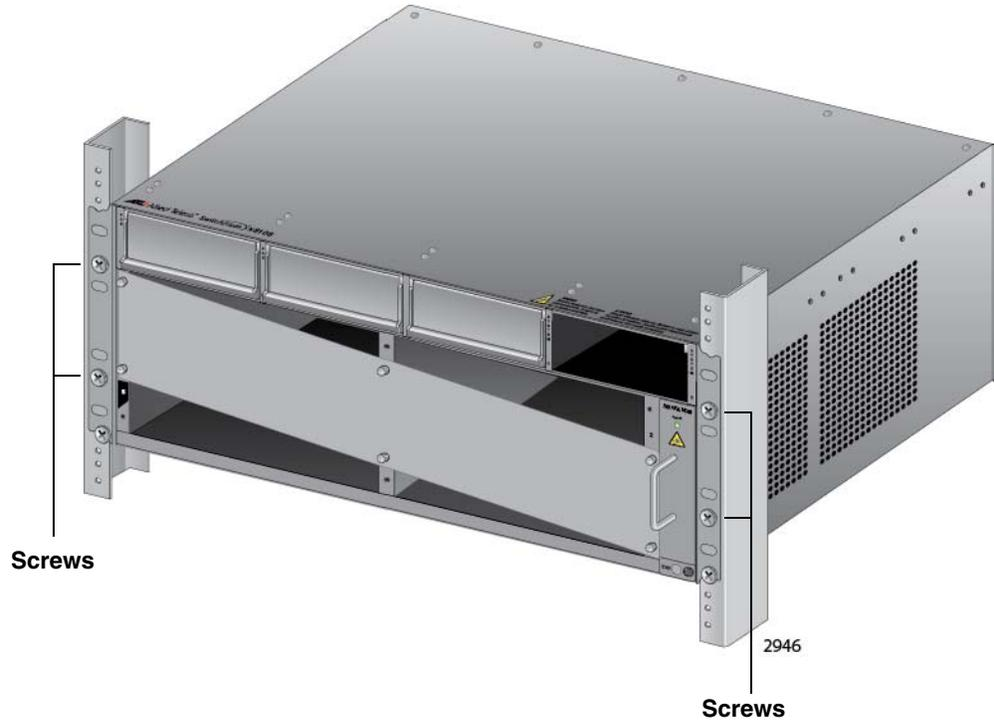

Figure 38. Installing the Rack Mount Screws
4. Install four rack mount screws (not provided) to secure the chassis to the equipment rack, as shown in Figure 38 on page 84.